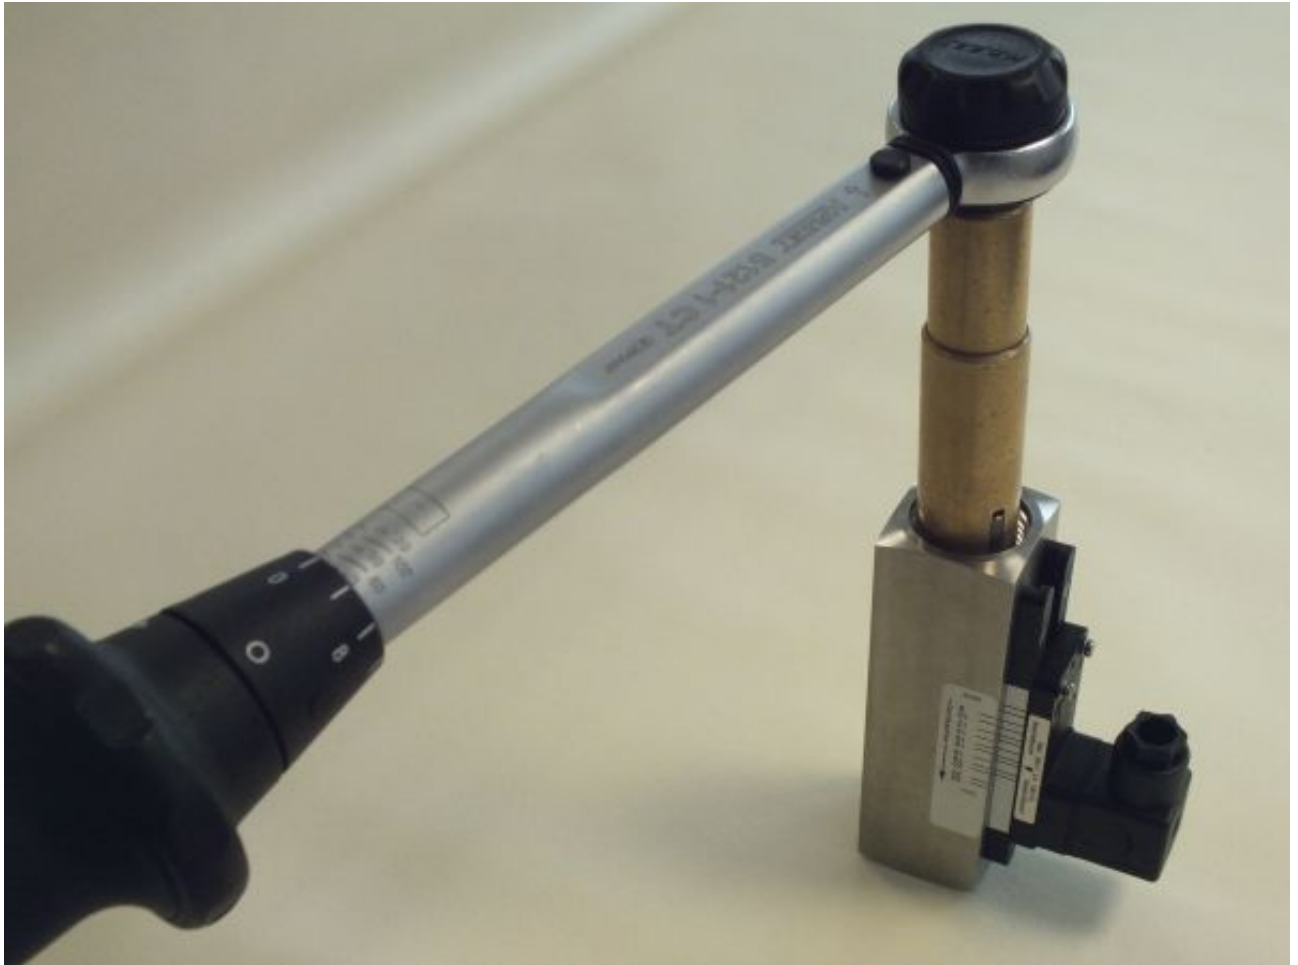

Fig. 63: Seat threaded ring (inlet)
5. ➤ Lightly seat the threaded ring (inlet) with the aid of the DKME/A-1 threaded ring insertion tool and tighten with a torque wrench (Fig. 63), observing the proper torque (➔ Chapter 11.1 "Tightening torque" on page 104).